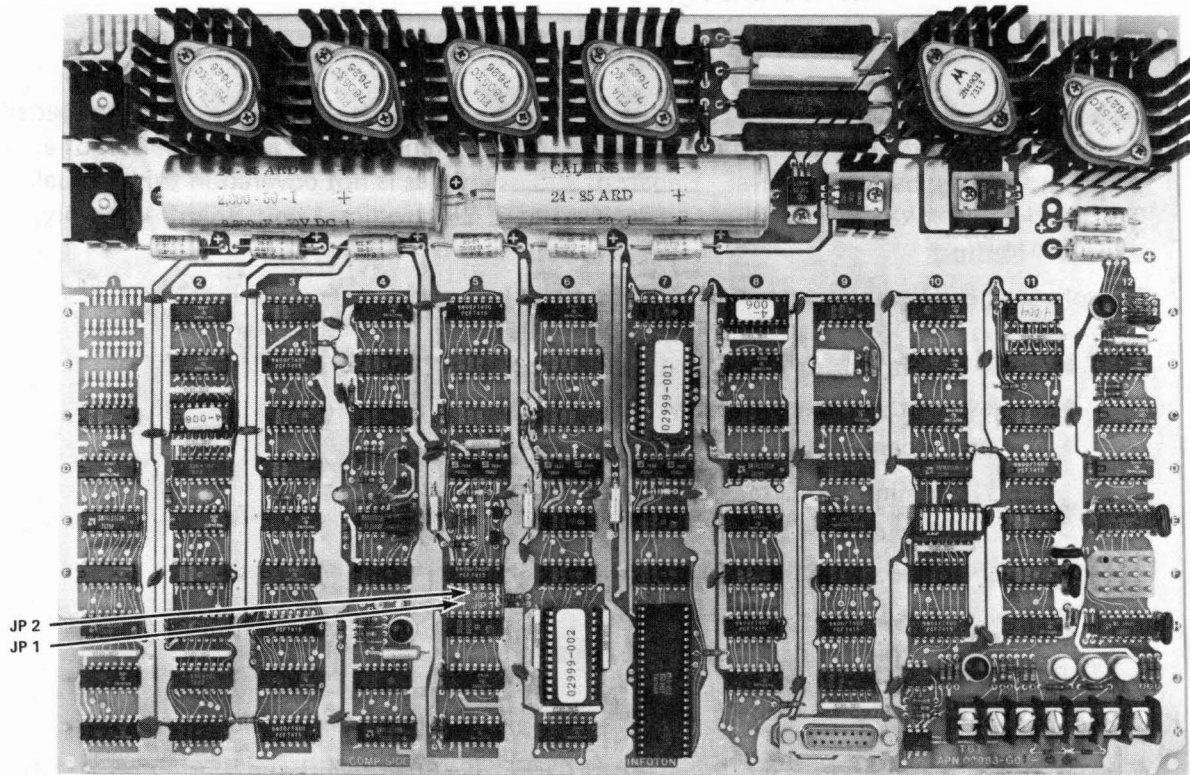

Figure 9 Control Logic PCB
- Logic Board Assembly (Figures 9 and 10)
3.2 CONTROL LOGIC PRINTED CIRCUIT ASSEMBLY (Figures 9 and 10)
Four control code combinations are available within the VISTAR/GTX. When shipped the terminal has no backspace function and forward space is destructive (JP1 and JP2 installed). See Figure 9.
5.2.2 Control PCB (Figure 9)